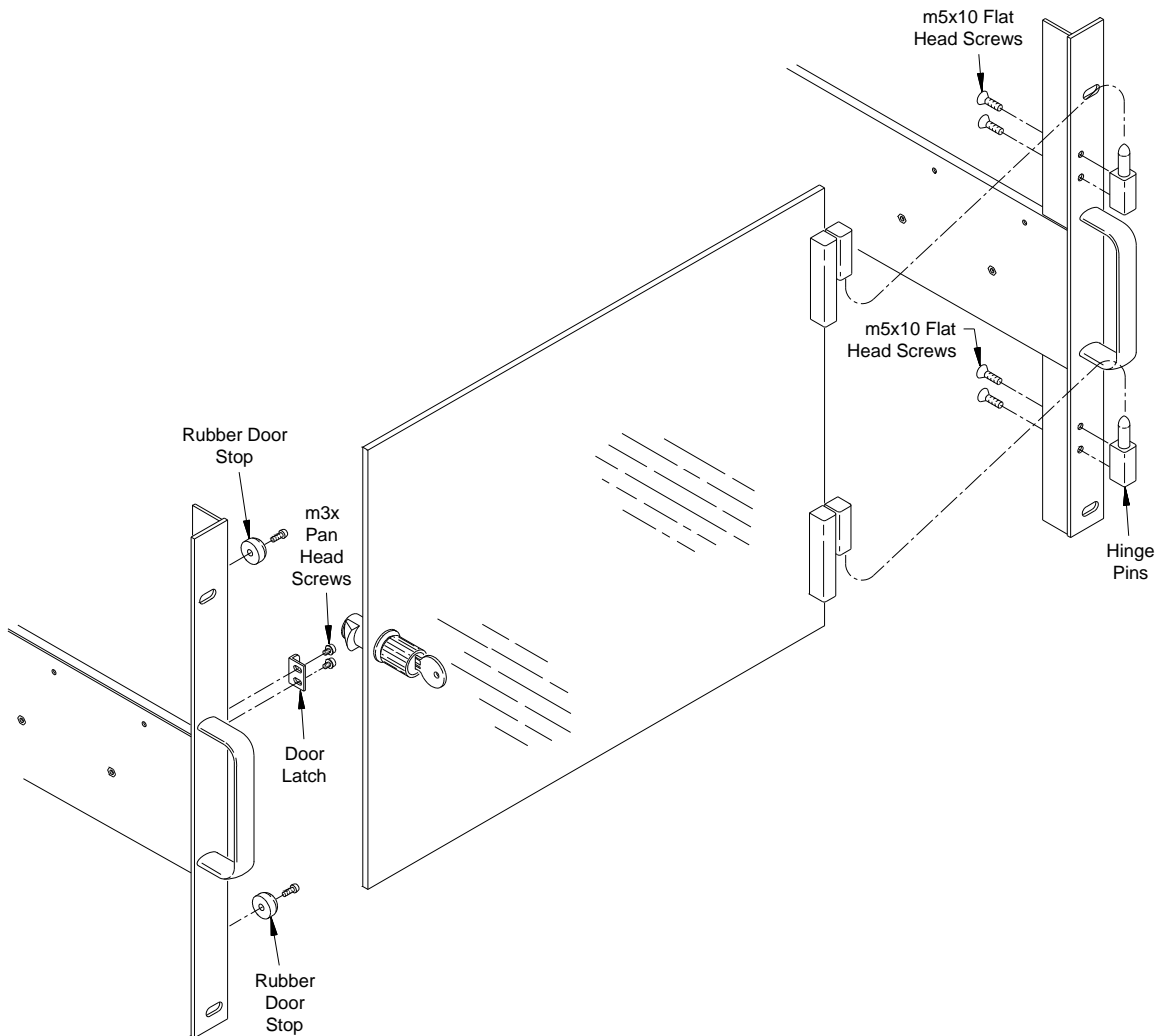

Figure 2-12. Installing the Acrylic Door Hinges, Door Stops, and Latch Keeper
3. Attach the hinge pins to the right rack mount adapter using four m5x10 flat head screws (Figure 2-12). Attach the rubber door stops and door latch to the left adapter using four m3x8 pan head screws as also shown in Figure 2-12.